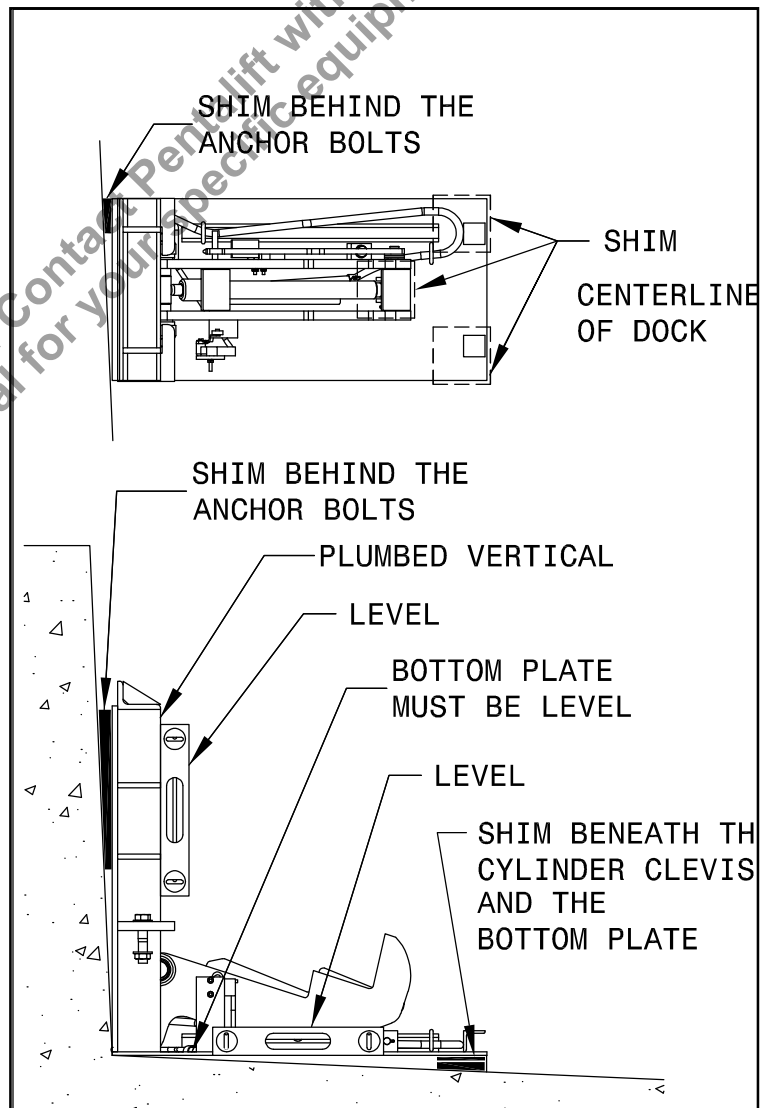

Figure 3: Shim Locations
5. ___ Center the restraint on the center line of the dock and position as shown in "Figure 3: Shim Locations" on page 10.
7. ___ Restraint must be level and plumb when positioned against the foundation wall. If the wall and/or ground are not square with respect to the back plate and the bottom plate of the restraint, metal shims must be inserted. Ensure the shims, if required, are located behind the lag holes in the back plate, below the bottom cylinder clevis and beneath the front corners of the bottom plate to prevent the back plate or bottom plate from twisting during lagging to the wall and to support the restraint appropriately during use (See "Figure 3: Shim Locations" on page 10). All shims must be welded together as well as to the back plate or bottom plate.
4. ___ If there is a gap between the bottom plate of the restraint and the finished driveway surface when the back plate is positioned square and flat to the cast in weld plate, shim the gap beneath the lower cylinder clevis. (Reference “Figure 3: Shim Locations” on page 10) Weld all shims together as well as to the bottom plate of the restraint.